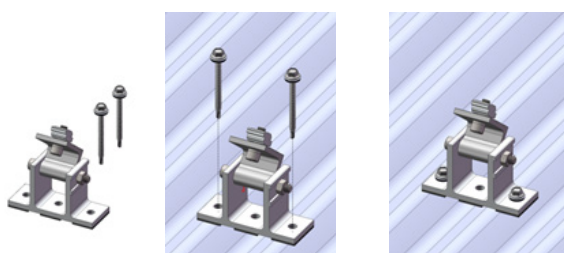

Figure 1
According to the installation plan, determine the mounting position and direction of the front legs. Either two screws or single screw (Buildex 14-11 x 70 Hex Head Zips screw) is required depending on the installation spacing requirement. See two screws and single screw options in Figures 1 and 2. Tin foot front leg installation is in Figure 3.
1. Two screws shall be installed through two side holes of front leg (as shown in Figure 1);